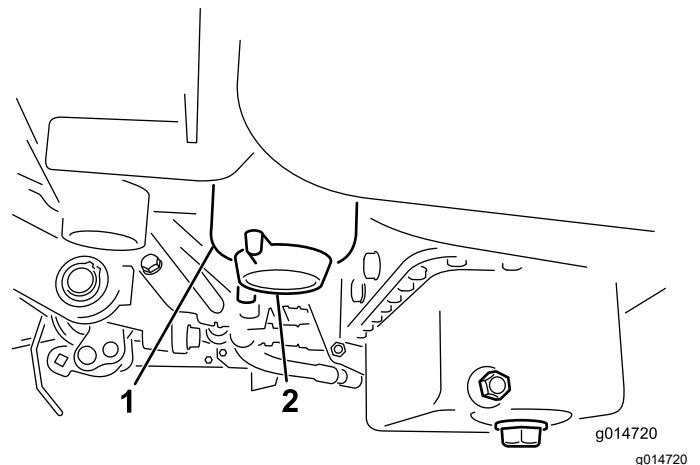

Figure 38
2. Clean the area where the filter canister mounts (Figure 38).
4. Open the filter drain plug (Figure 38).